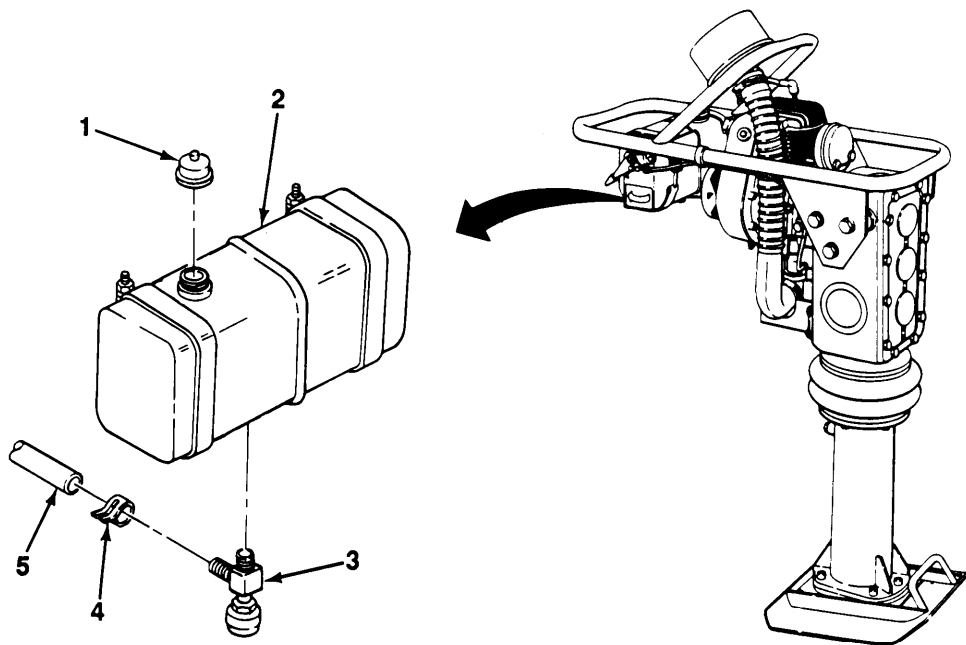

Figure 2-6. Draining and Filling Fuel System.
- Refer to Figure 2-6, Draining and Filling Fuel System.